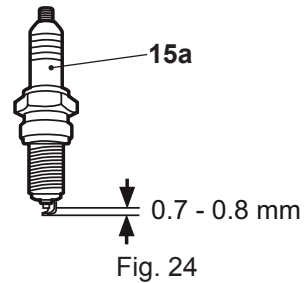

Fig. 24
6. Check the spark plug gap. It should be 0.7-0.8 mm (Fig. 24).
8. When replacing the spark plug (15a), first screw it in hand tight and then lightly tighten it with the spark plug wrench (28).